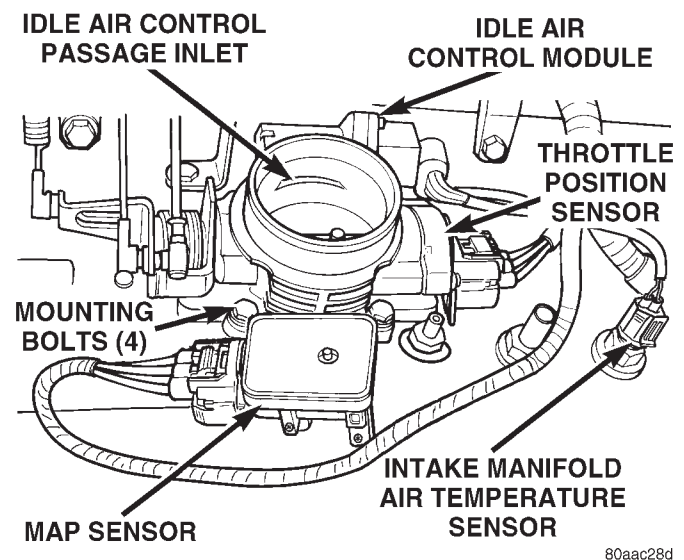
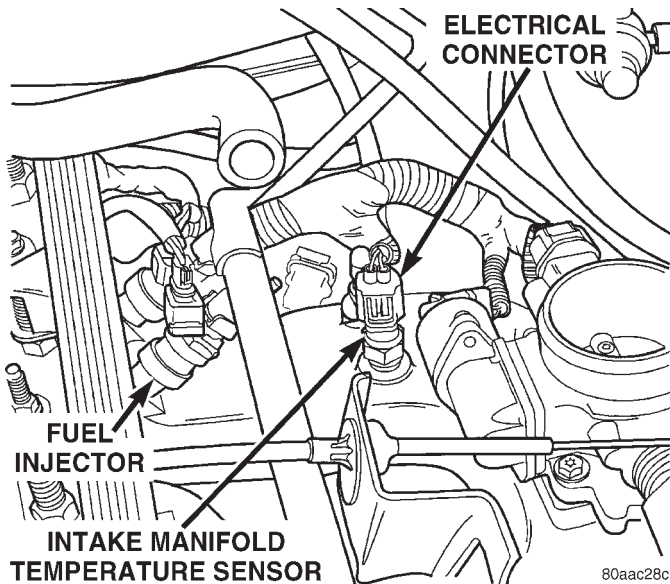

Fig. 33 Intake Manifold Air Temperature Sensor—4.0L Engine
Fig. 34 Intake Manifold Air Temperature Sensor—2.5L Engine
(1) Disconnect wire harness connector from intake manifold air temperature sensor (Fig. 33) or (Fig. 34).
To perform a complete test of the TPS (Fig. 33) and its circuitry, refer to the DRB scan tool and appropriate Powertrain Diagnostics Procedures manual. To test the TPS only, refer to the following: